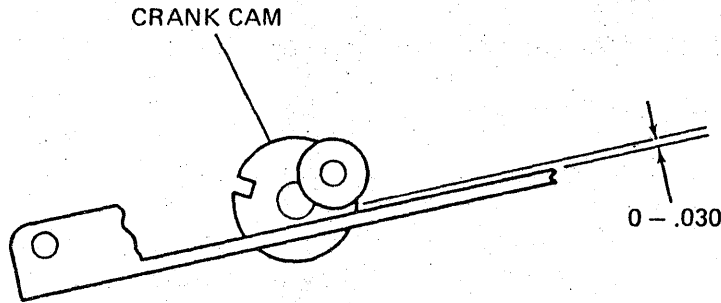

Figure 2-11A. Eject Motor Cam Alignment Check - Carrier Open
- d. Depress eject button on bezel and observe the crank cam rotate to a point where the bearing follower is just clear of impacting the carrier plane, i. e., 0-.030". Once the carrier is open there must be no further contact between the bearing follower and carrier. (Figure 2-11A.)